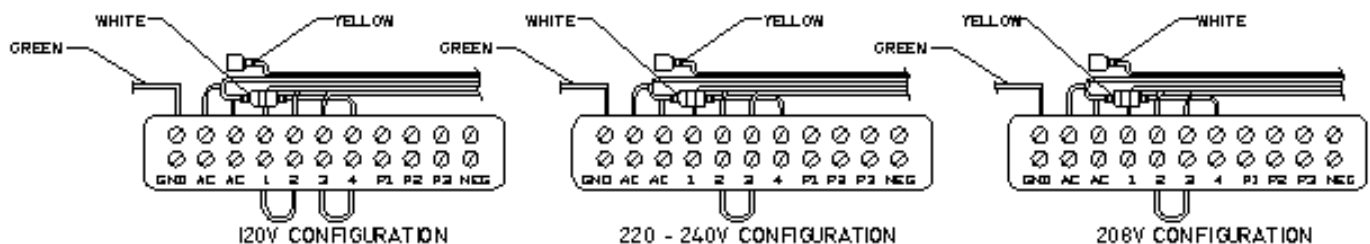

fig. 5 – 1
3. The positions marked 1, 2, 3, & 4 are transformer taps that are used to configure the input voltage. Determine the input voltage of your supply and see *fig. 5 – 1* for proper input configuration. Loosen the set screws and remove and place the jumper from position 2 to position 3 and tighten the set screws for 208V, or 220 – 240V input. **For 208V input**, you will also need to disconnect the white transformer lead behind position 4 and connect it to the yellow lead also located behind the terminal block. These wires have a 1/4" "fast-on" type connector for this purpose. **NOTE – THE UNIT IS SET FOR 120V INPUT AT THE FACTORY UNLESS SPECIFIED OTHERWISE IN THE PURCHASE ORDER.**